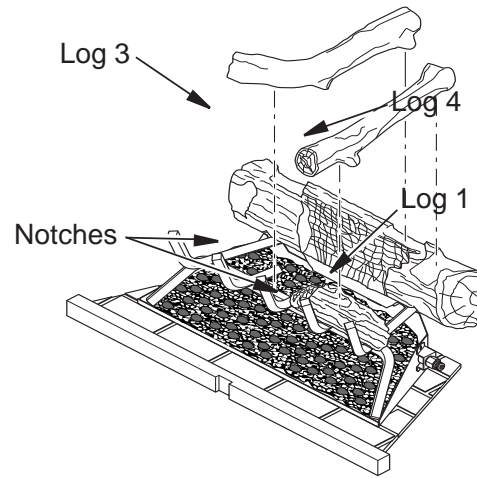
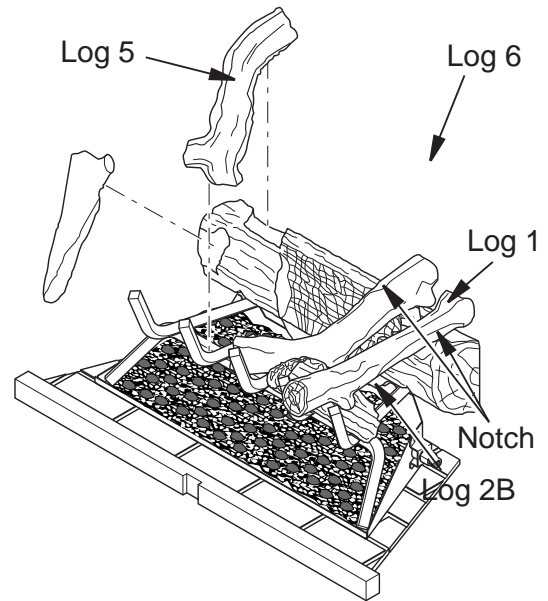
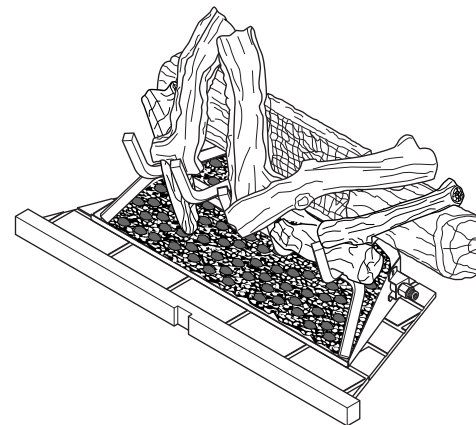

Figure 28 - Installing Logs 3 and 4
Figure 29 - Installing Logs 5 and 6
Figure 30 - Logs Installed for BRT4042TEN/TEP-B, BRT4342TEN/TEP-B and BRT4542TEN/TEP-B Models
3. Place log 3 into notch on top left of log 1, resting lower end on left two grate fingers (see **Figure 28**).
4. Place upper end of log 4 into notch on log 1 as shown in **Figure 28**. Rest lower end of log 4 on the middle grate finger as shown in **Figure 29**.
5. Place upper end of log 5 into notch on top inner right of log 1 (see **Figure 29**). Rest lower end of log 5 on middle grate finger as shown in **Figure 30**.
6. Place log 6 into notch on top right of log 1 (see **Figure 29**). Rest lower end of log 6 on top of log 2B (see **Figure 30**).